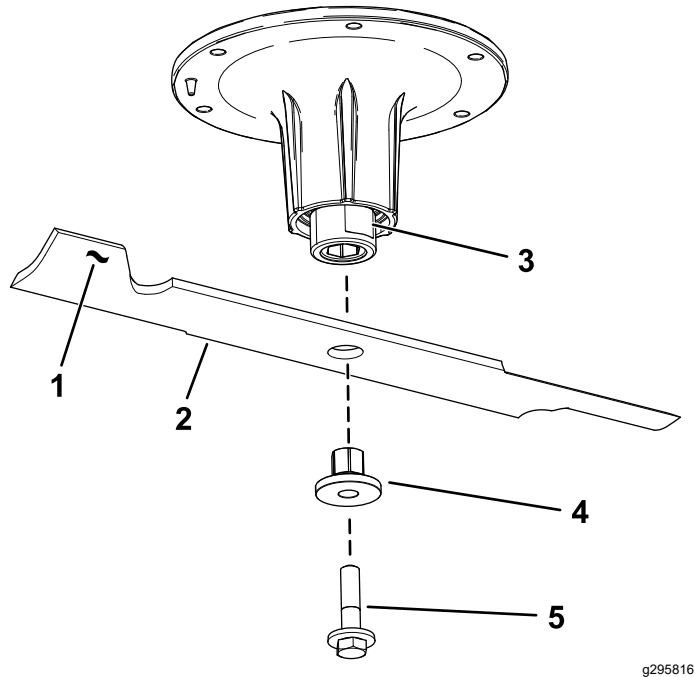

Figure 93
2. Remove the blade bolt, bushing, and blade from the spindle shaft (Figure 93).